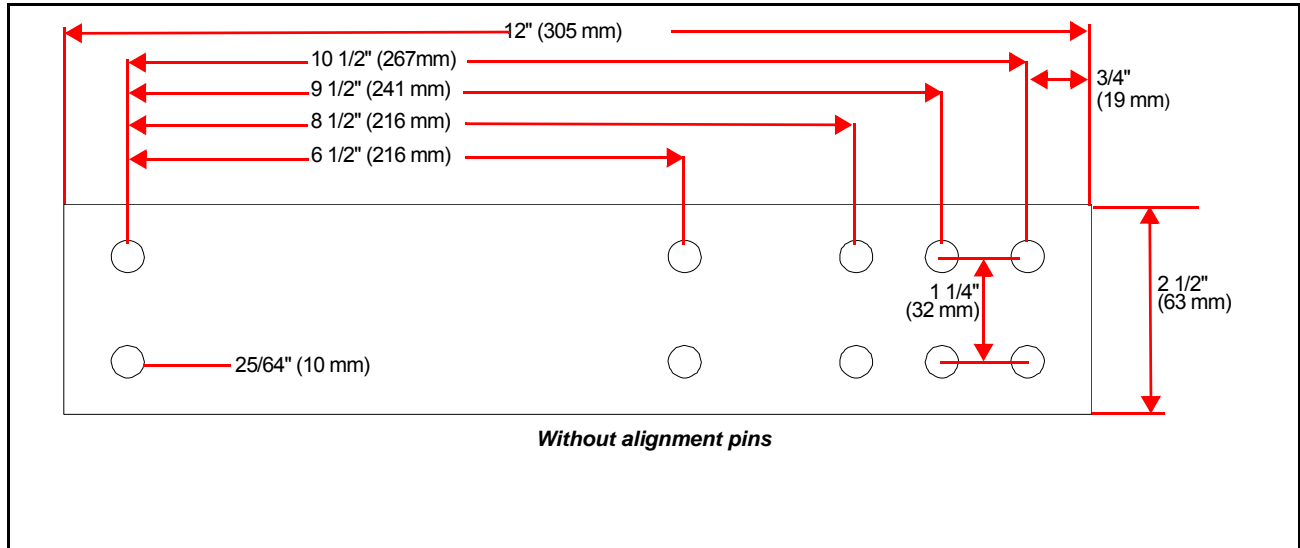

Figure 5-32 Set-up Arm for Bed Replacement, Key P/N 429816.1
During bed replacement, you must use temporary steel set-up arms at each corner of the shaker. If the bed is over 12' long (3.6 meters), or of heavy construction, it may require additional set-up arms to prevent sagging in the middle. Set-up arms can be ordered from Key Technology Parts Sales, or you can make them on-site according to the specifications provided in Figure 5-32. In addition, you will need a transfer jig built, as specified in Figure 5-31. This can be made from the set-up arm shown in either Figure 5-31 or Figure 5-32.
5. Install the temporary set-up fixtures (Figure 5-32 and Figure 5-36). Two should be installed on the infeed corner frame brackets and two on the discharge end corner frame brackets. The fixtures are to be bolted to the back side/upstream side of frame bracket as shown in Figure 5-36.